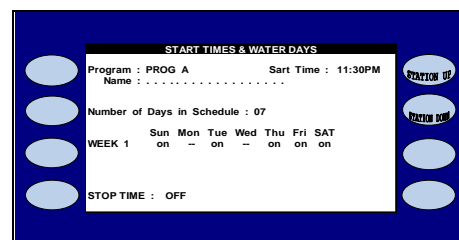

Figure 3.1
The START TIMES & WATER DAYS screen is displayed (Figure 3.1).
5.  When at the **START TIMES & WATER DAYS** screen, the two (2) top right Menu keys can be used to scroll to the different programs. The following explains each setting on the **START TIMES & WATER DAYS** screen.
- **PROG:** Indicates the current program. Program A is being programmed in the example Figure 3.1. The ET2000e Controller has seven (7) programs A, B, C, D, E, Drip1, and Drip 2.
- **DAYS IN SCHEDULE:** The ET2000e can be set with a 7-Day schedule (shown in Figure 3.1), 14-Day Schedule, 21-Day Schedule or 28-Day Schedule.